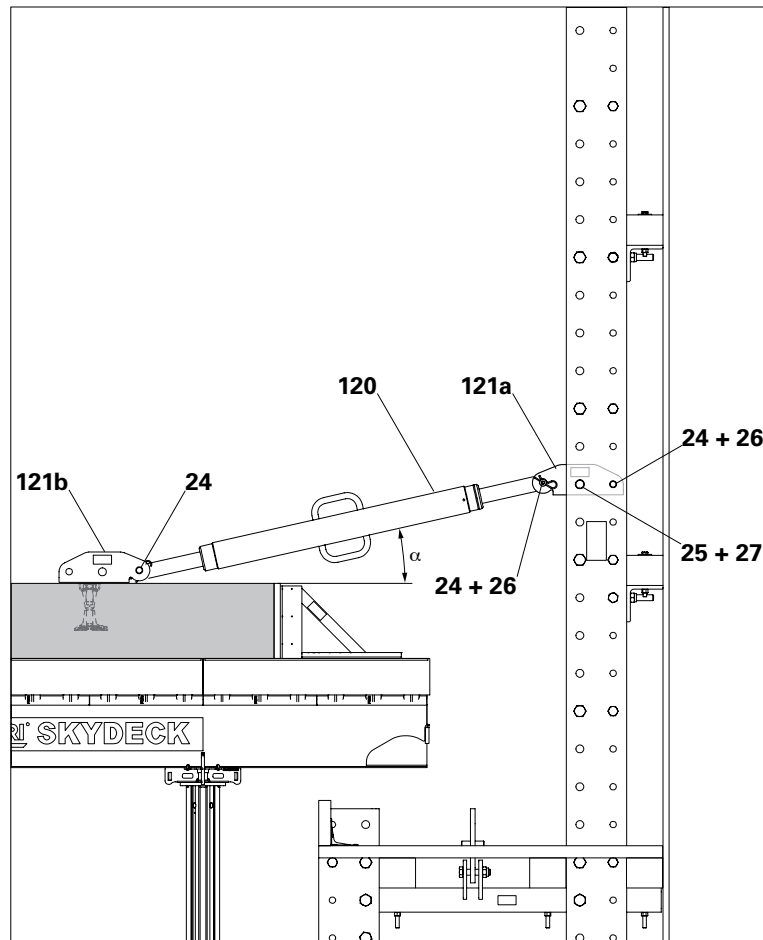

Fig. D1.10
1. Connect the Spindle Shoe SLS/RCS (121a) to the Enclosure Post (1) using one fitting pin  $\varnothing$  26 (25) and one fitting pin  $\varnothing$  21 (24). Secure both fitting pins with cotter pins (26 + 27). Angle of inclination  $\alpha = 10 \pm 5^\circ$ .
2. Connect Heavy-Duty Spindle SLS 100/180 (120) to the Spindle Shoe (121a) using fitting pin  $\varnothing$  21 mm (24) and cotter pin (26).
3. Attach second Spindle Shoe (121b) to the Heavy-Duty Spindle (120) using fitting pin  $\varnothing$  21 and cotter pin (26). (Fig. D1.10)